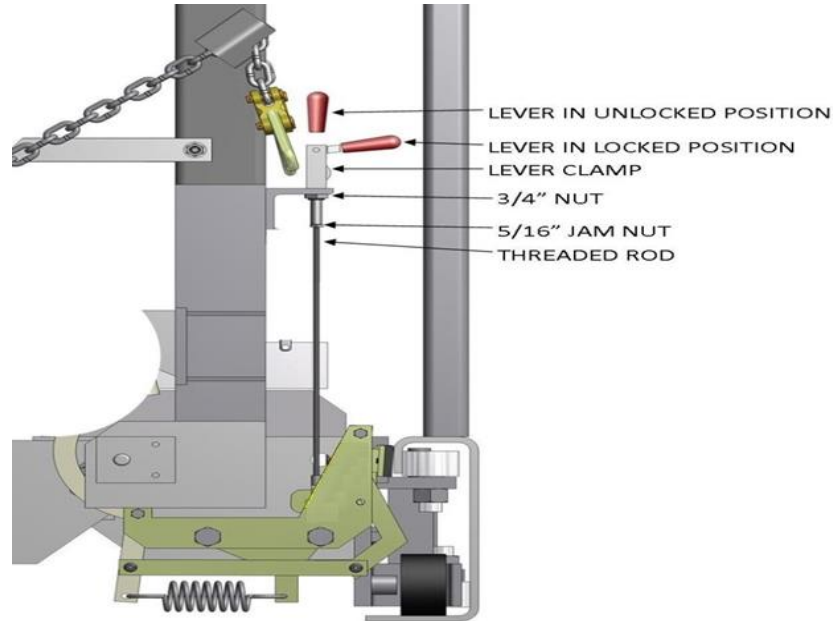

FIGURE 6-4
- v) Use **FIGURE 6-4** below as a guide while performing the following steps to adjust the manual brake:
- 5) If the brake engagement is insufficient or if the lever is still too tight, repeat steps (1) thru (4) to